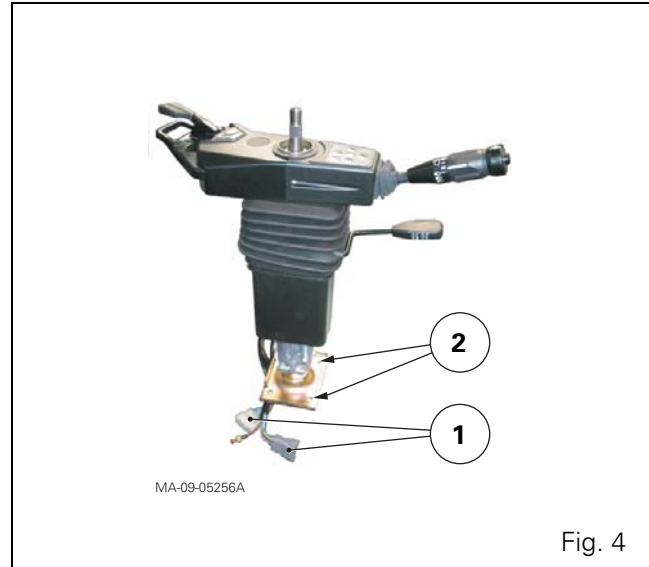

Fig. 4
3. Disconnect the control connectors (1) placed under the instrument panel (Fig. 4).
4. Remove the screws (2) fixing the column base to the cab support (Fig. 4).